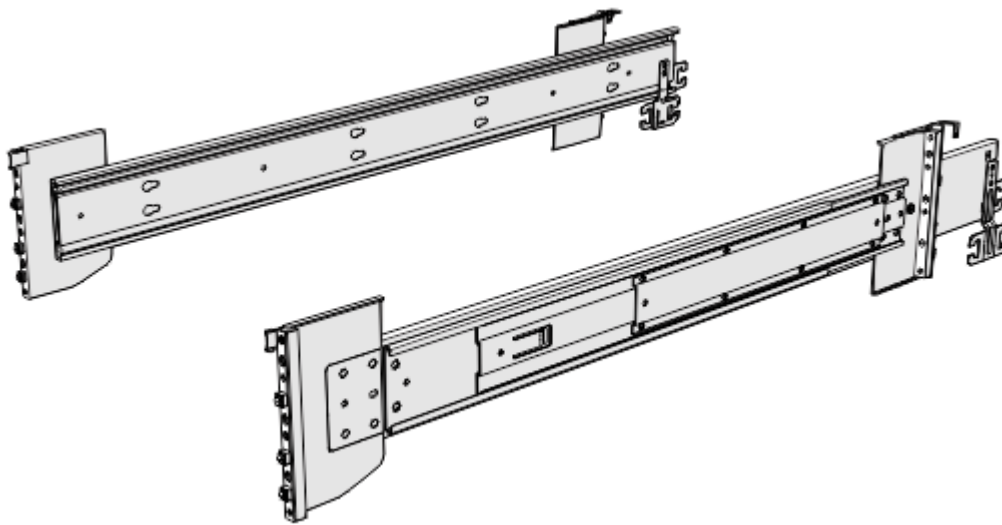

Figure 27. Support rails
1. Locate the hardware that is used to install the rails, including the M4xL6 and M5xL13 screws. Set the hardware, which is shown in Figure 27 on page 26, aside for use later in the installation process.